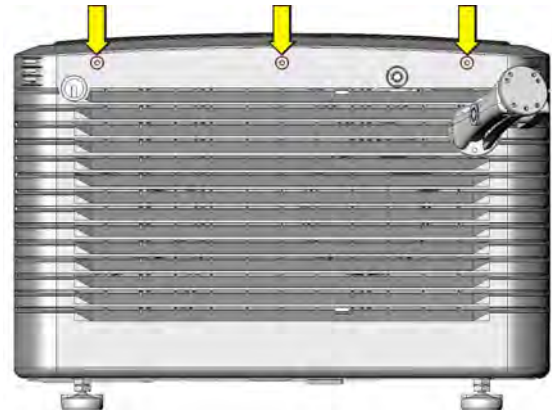

Figure 5-6 Remove Back Cover
2. Using a #2 Phillips™, loosen the three screws securing the back cover to the chassis. **(Figure 5-6)**